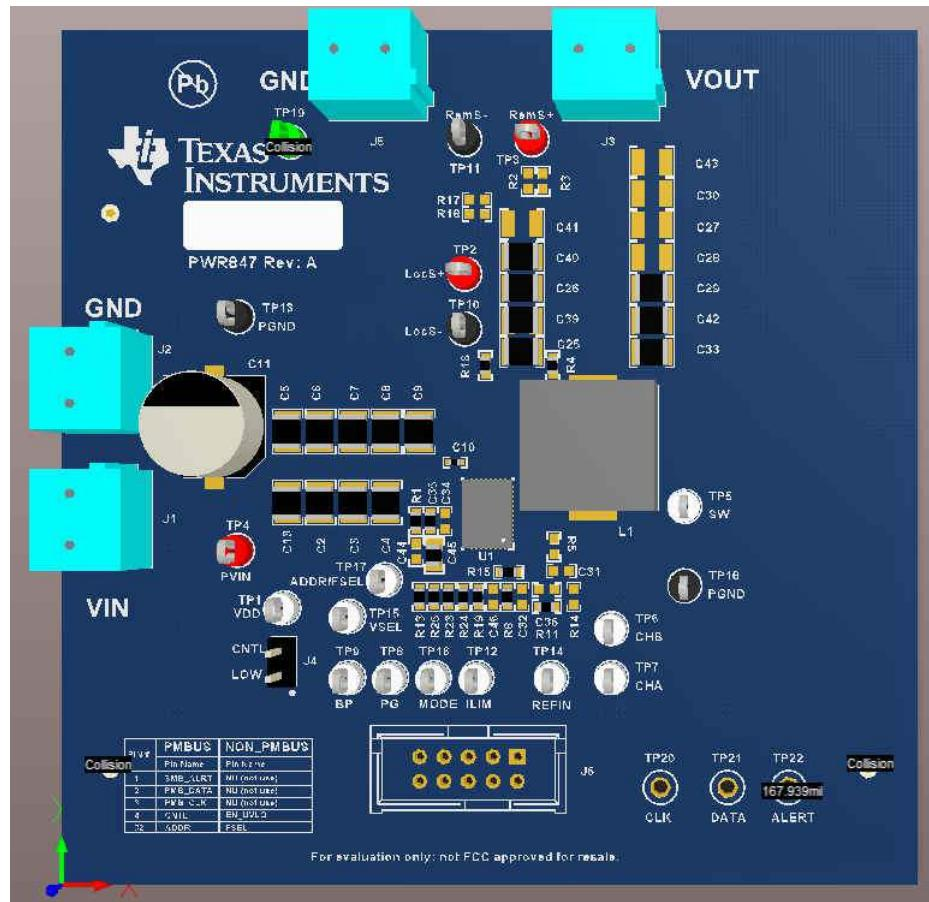

Figure 6-1. PWR-847EVM Overview
**Multimeters:** It is recommended to use two separate multimeters Figure 6-1. One meter is used to measure  $V_{IN}$  and one to measure  $V_{OUT}$ .
**Output Load:** A variable electronic load is recommended for testing Figure 6-1. It must be capable of 25 A at voltages as low as 0.6 V.
1. Connect VOUT to J3 and VOUT\_GND to J5 Figure 6-1.
4. Connect VIN to J1 and VIN\_GND to J2 Figure 6-1.